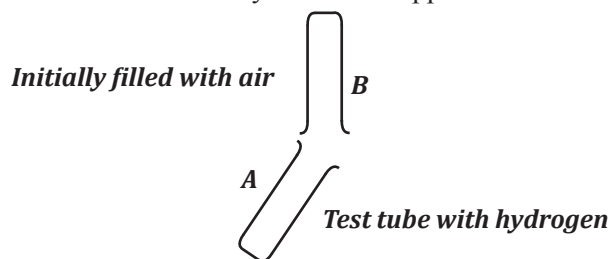

Figure 9.2; “Pouring” hydrogen upwards.
1. Prepare hydrogen as shown in figure 9.2
4. Allow the gas to escape from test tube A to another test tube B as shown in figure 9.2. The test tube B should be inverted directly over the mouth of test tube A. B is filled with air.